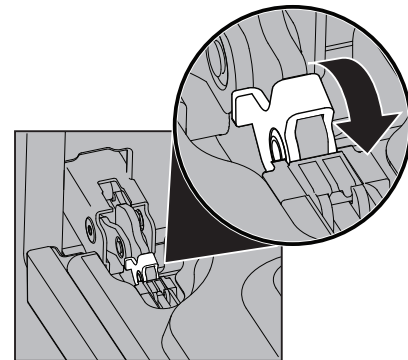

Figure 20: Door hinge lock
4. Push the door hinge locks up toward and into the oven frame on both left and right oven door hinges to the locked position (Figure 20).